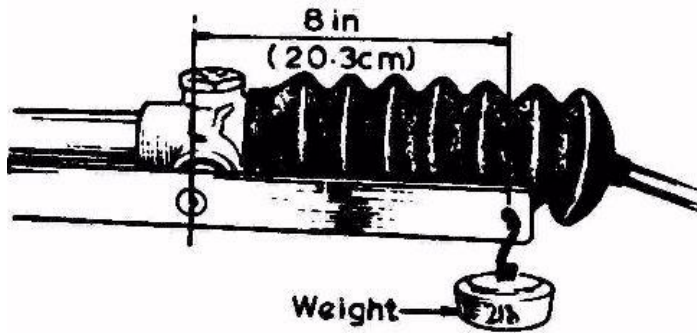
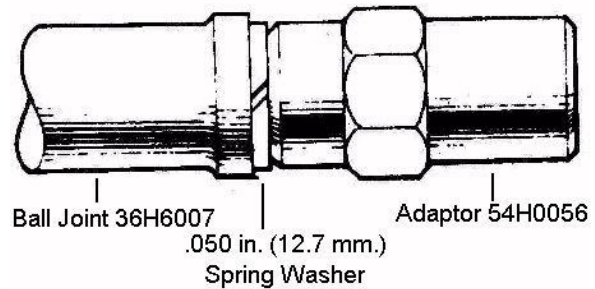

Fig. 13 - Rotating the Pinion.
Fig. 15 - Tie-Rod Adaptor Components.
- d/ When the nut is correctly adjusted, a force of 2 lb. (.91 kg.) is required to rotate the pinion at a radius of 8 in. (20.3 cm) see Fig.13. Check and re-adjust the unit, if necessary, by adding or subtracting shims from beneath the cap nut.
13. Fit the modified tie-rod adaptors to the ball joints using the ½ in. (12.7 mm.) spring washers as shown in Fig. 15. [1] Torque tighten to 50 lbs. ft. (6.91 kg. m.).
[1] Page 12: Original labeled 'Fig. 13'. Changed to "Fig. 15". [JJ]